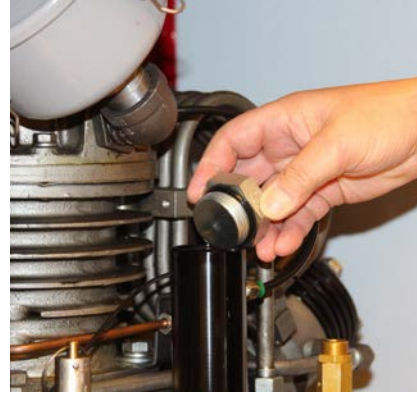

Figure 4.5-8: Oil Fill Cap
7. Remove the oil fill cap by turning it counter-clockwise. See Figure 4.5-8.